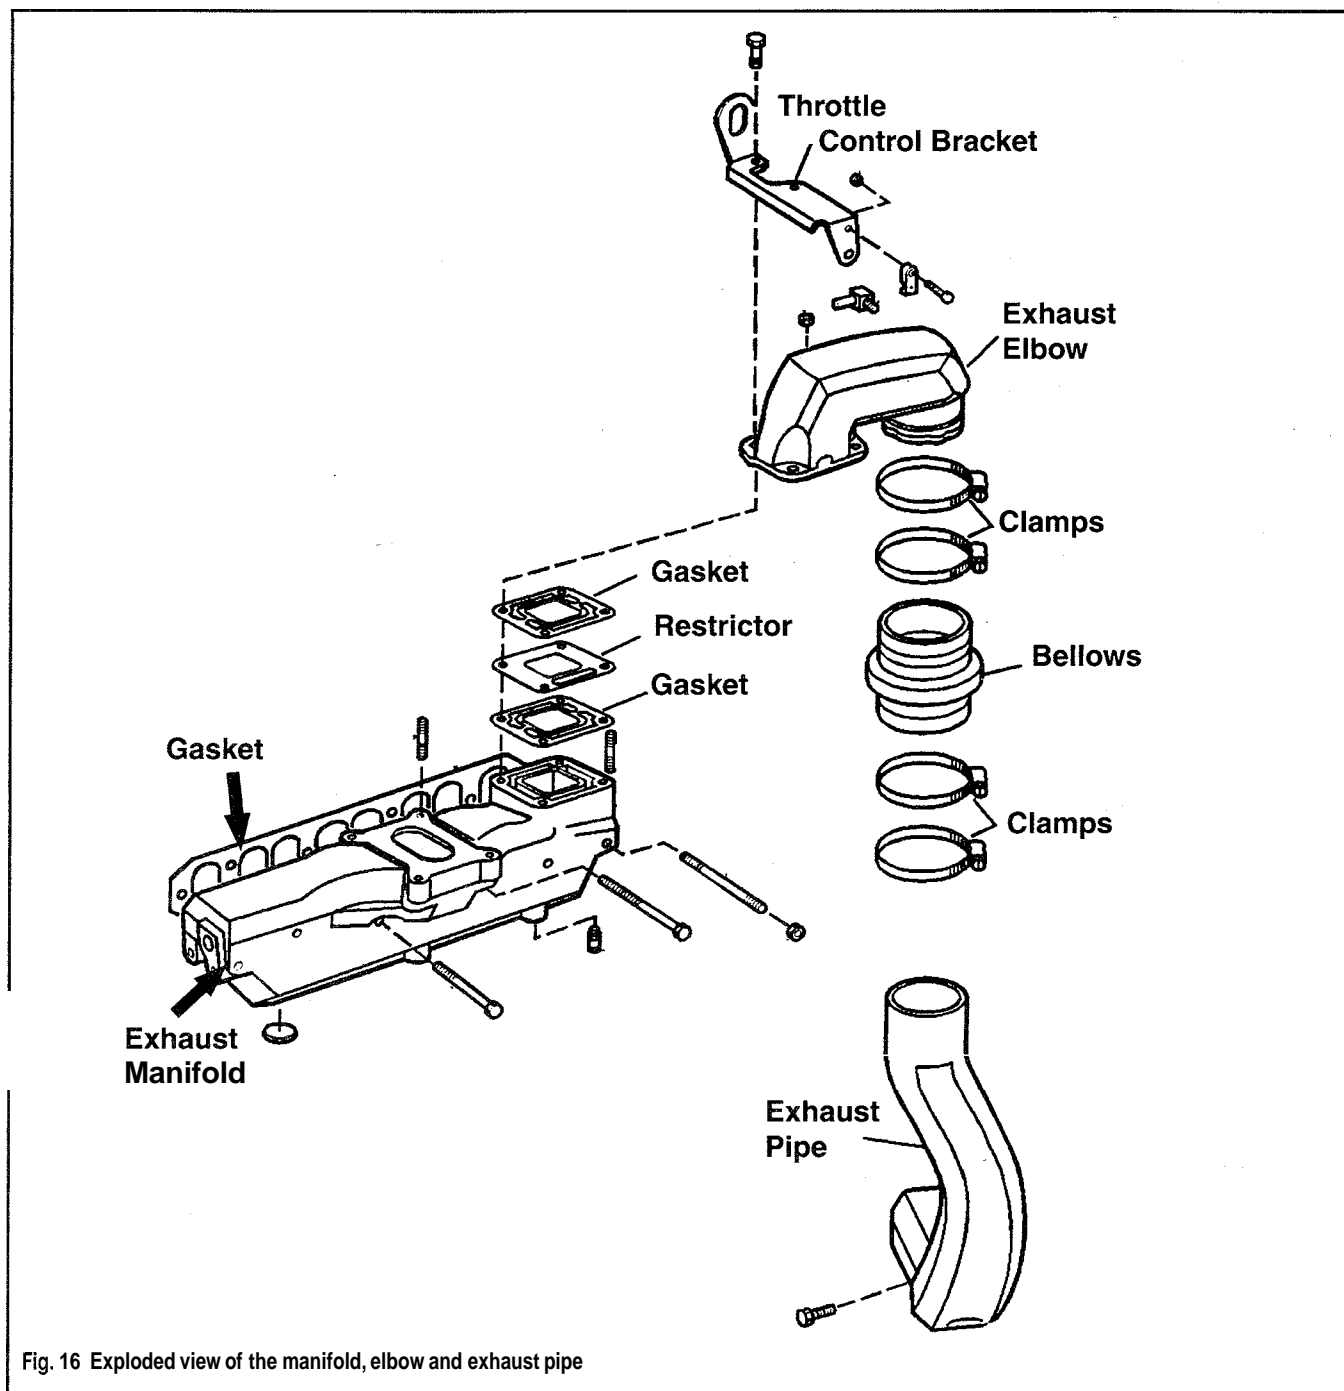

Fig. 16 Exploded view of the manifold, elbow and exhaust pipe
- ◆ See Figure 16
◆ See Figures 16, 17, 18 and 19
◆ See Figure 16